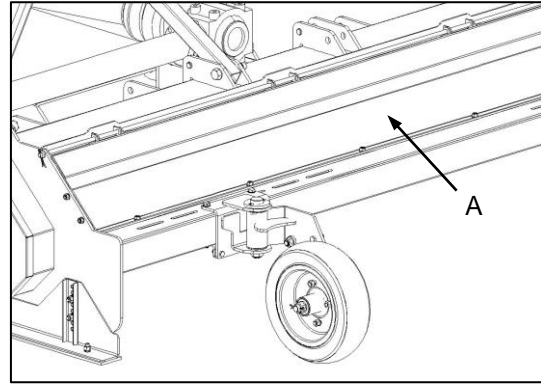

Fig. 2
➤ **Containment mode (Fig. 2)**
- ✔ Discharge chute in the closed position (Fig. 2-A), allowing solid materials to be repeatedly processed.
➤ **Behoudmodus (Fig. 2)**
- ✔ Afvoergeut in die toe posisie (Fig. 2-A), sodat gesnyde materiaal herhaaldelik gesny kan word.